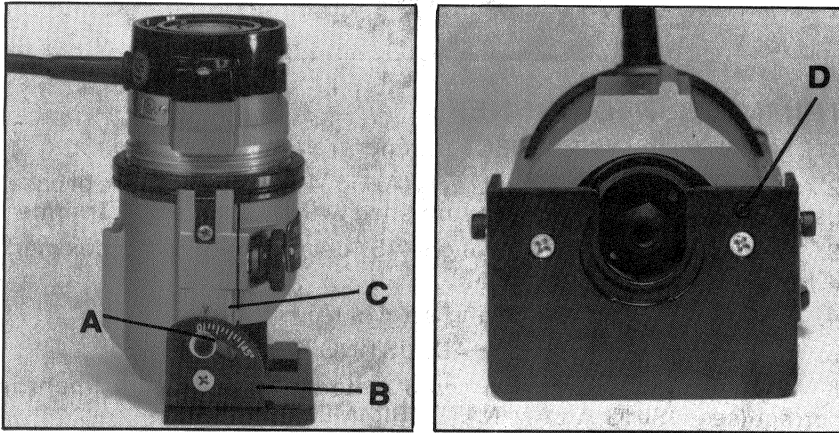

Fig. 2
2. Loosen two tilt locking screws (A) Fig. 2 (one on each side of base) using the  $5/32$ " Allen wrench furnished with your Laminate Trimmer.
3. Adjust base (B) Fig. 2 to align "0" degree mark with index mark (C) Fig. 2.
4. Tighten the two tilt locking screws (A) Fig. 2.
NOTE: This trimmer is equipped with an adjustable positive stop at the "0" degree position. After making a preliminary setting and practice cut following the above steps; check the accuracy of the cut. Turn set screw (D) Fig. 2, inward or outward as required to produce a true "0" degree cut. With the set screw (D) accurately positioned, the base will return to the same "0" degree setting without need for visual alignment of the graduation markings.